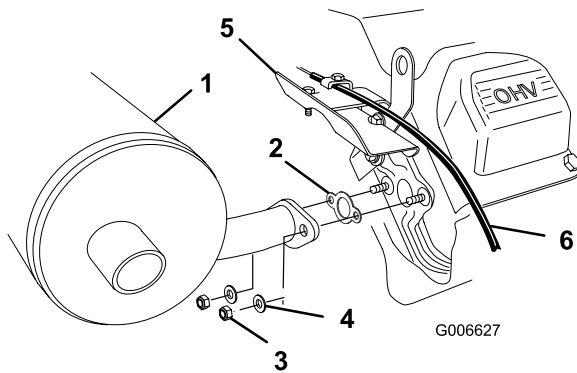

Figure 2
2. Install the new muffler to the studs on the engine, securing it tightly using the previously removed lock washers and nut (Figure 2).
3. Install the muffler heat shield (Figure 2).